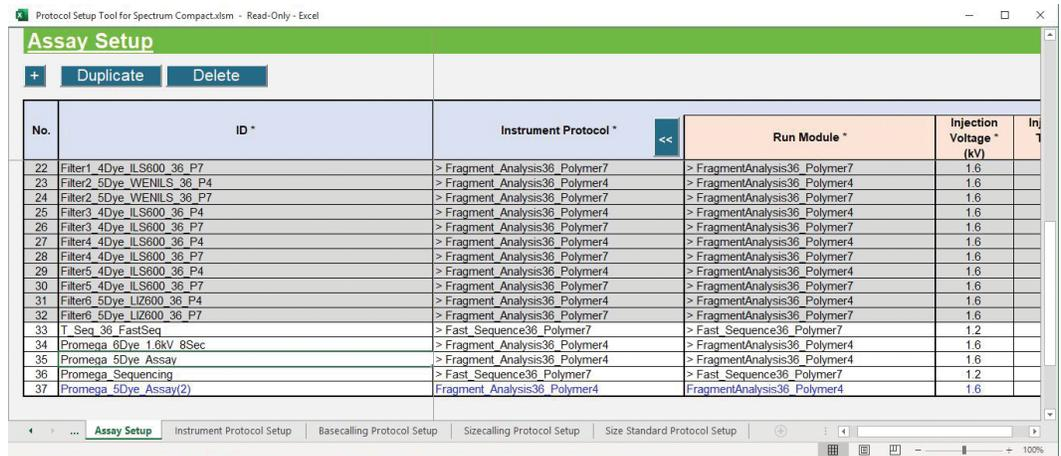

Figure 204. 'Assay Setup' worksheet with Instrument Protocol parameters displayed.
- This opens columns to the right containing the individual parameters that may be edited for that instrument, basecalling, or sizecalling protocol as described in Sections 13.4.2–13.4.4 (Figure 204).